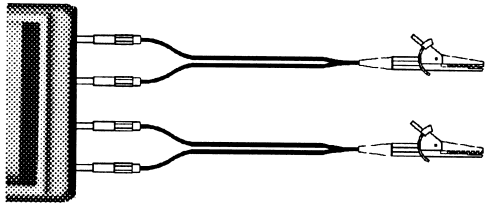

Fig. 2
- (5) Connect the standard Kelvin lead set into the E1620. One pair of leads should be connected into the C1 and P1 sockets, and the other into the C2 and P2 sockets as illustrated below in Fig. 2. Connect the two Kelvin crocodile clips to a shorting bar.